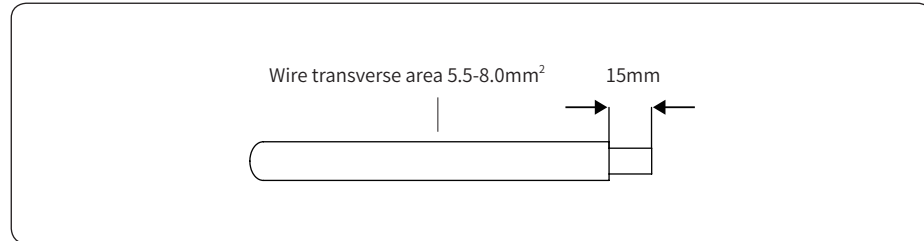

Figure 4-17
- 2) Peel off the DC cable insulation sleeve for 7 mm, as shown in Figure 4-17: